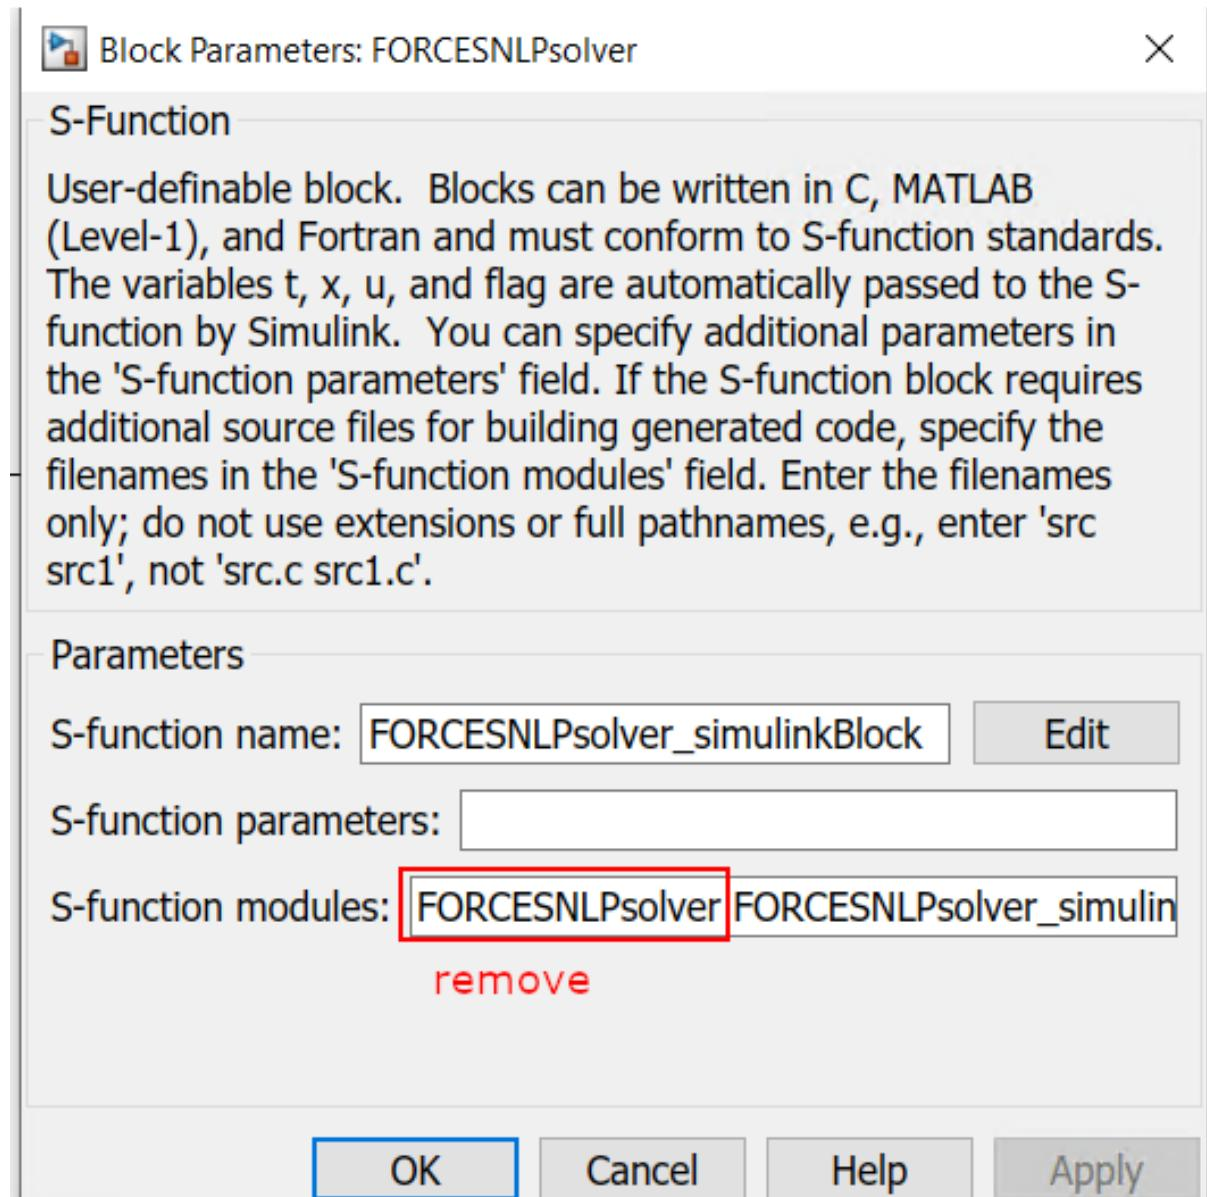

Figure 13.70: Remove the leading solver name from the S-function module.
- 14) Remove the “FORCESNLPsolver” prefix from the S-function module (see Figure 13.70).